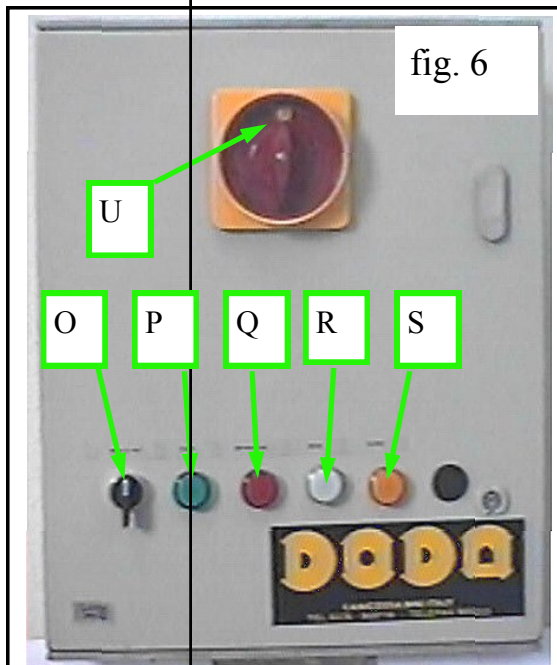

fig. 6
- 1) Open electric board **fig. 6** and connect the electric supply cables in the suitable terminal board **W fig. 7**.
- 3) Turn the main switch **U** knob from **zero** position to **one fig. 6** only for one second, then put it again to zero (check if the rotation direction of the electric motor is correct: see sticker on the back).
- put "Manual/Automatic" knob **O** **fig. 6** on Manual position, with only one shift; then the cycles programmed by the timers start.
In both cases, if washing has not been satisfactory restart it simply by turning the “Manual/Automatic” knob **O fig. 6** on Manual position - with only one shift.
Rotate main switch **U fig. 6** to position **One** and knob **O** to “Automatic”. Now, **if the feeding pump is provided with a level probe** the pump feeding can start.
In case you want to stop the cycle, in any time, turn knob **O fig. 6** to Manual:
- turn main switch **U** **fig. 6** to **One**
- to stop the plant, turn knob **O** **fig. 6** in central position